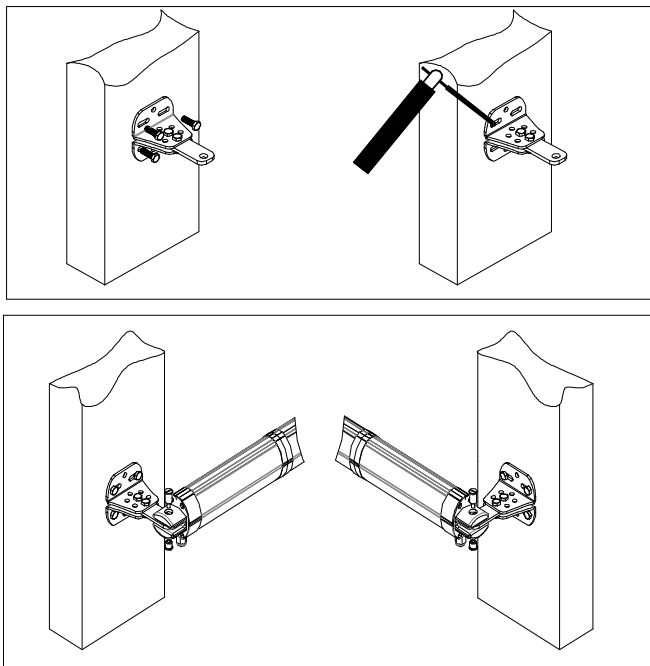

Fig.7
- Mount the rear part of the gate operator on the post bracket using the pin supplied, secure the pin using the nut. See Fig. 7.